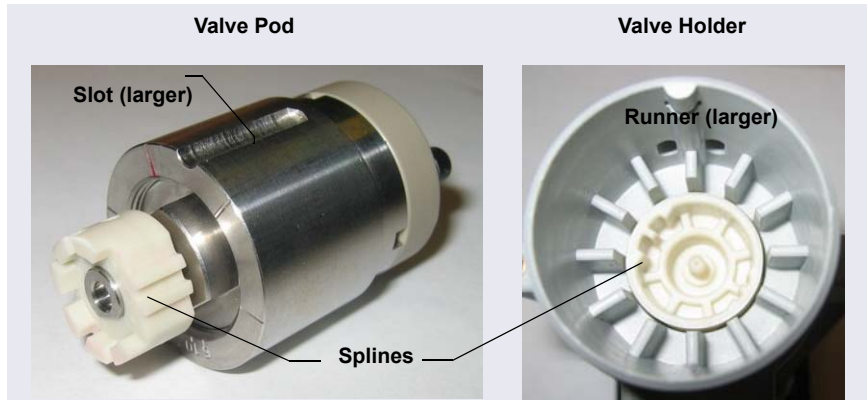

Figure 9-37. High-Pressure Valve Pod and Pod Holder
7. Align the slots in the new pod with the runner in the valve holder on the DC or AM (see Figure 9-37). Valve pods are keyed to fit only one way (one slot is narrower than the other). Verify that the slots are aligned with their matching runners.
8. Also verify that the two splines on the pod align with the matching splines inside the valve holder (see Figure 9-37). If necessary, twist the end of the pod to adjust the position of the splines.